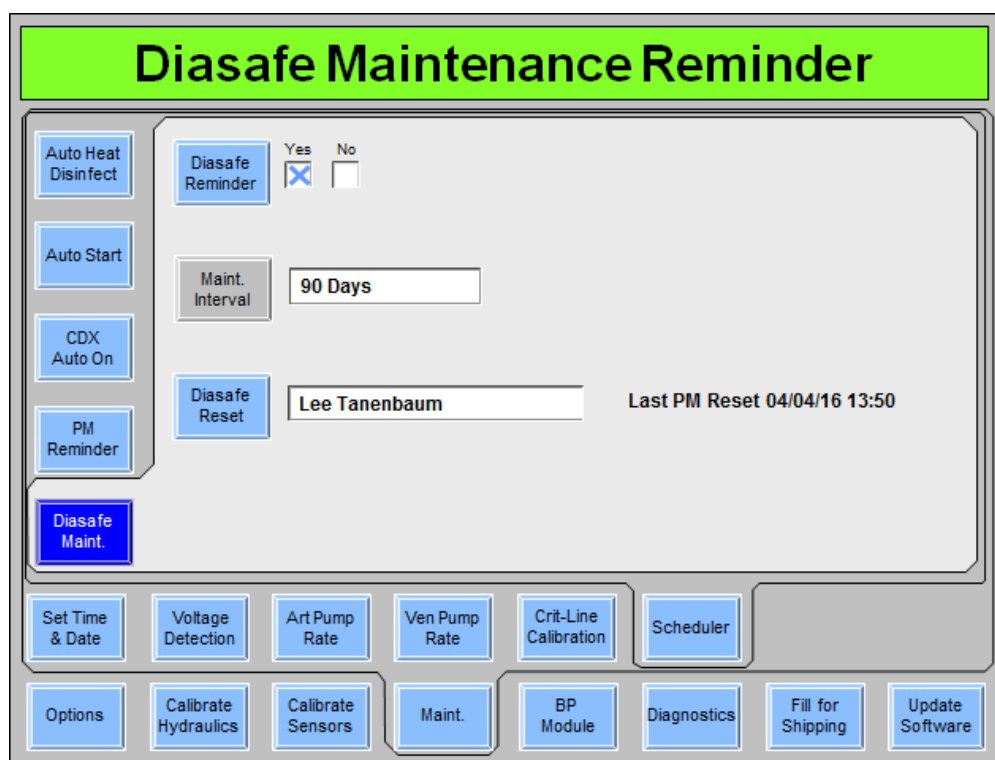
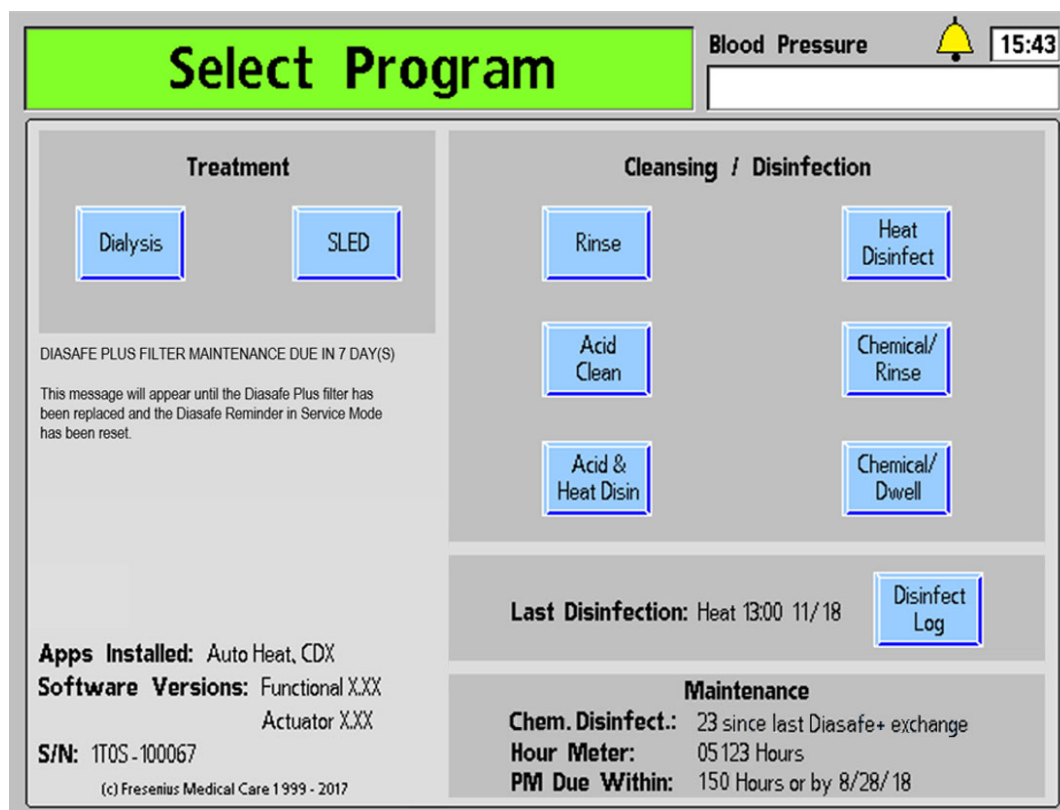

Figure 131 – Scheduler Diasafe Maint. Screen (showing functional software version 2.81 or later)
Figure 132 – Diasafe Reminder message displayed on the Select Program Screen (showing functional software version 2.81 or later)
The Diasafe Reminder option is part of 2008T BlueStar Premium * and it allows the user to program the 2008T hemodialysis machine to display a reminder on the “Select Program” screen (see Figure 132) to replace the DIASAFE *plus*_{US} filter starting seven days before the 90 day period has expired. The Service Mode “Diasafe Maintenance Reminder” screen also records the name of the technician that performed the last Diasafe reminder reset.
3. Select the **Diasafe Reset** button and, using the keyboard, enter the technician's name setting the PM reminder then press the **CONFIRM** key (for software version 2.81 or later, the name will populate the box automatically). This will reset the countdown clock from the last DIASAFE *plus*_{US} filter replacement date and save the technician's name and date the 90 day timer was reset (see Figure 131). This overwrites the name and date of the technician who performed the previous PM reset.
When the next DIASAFE *plus*_{US} filter replacement is due within 7 days, a message will appear on the "Select Program" screen to remind the operator that the DIASAFE *plus*_{US} filter maintenance due date is approaching, see Figure 132 below. The remaining hours will continue to count down to zero days and the reminder message will remain until the Diasafe Reminder is reset again.
In functional software version 2.81 or later, the user can program the "Select Program" screen so that it will display the number of chemical disinfections performed since the last Diasafe Plus filter replacement, so long as the Diasafe Reminder has been reset as described above. On the "Diasafe Maintenance Reminder" screen (see Figure 131) toggle the **Chemical Counter** button to Yes. The "Chem. Disinfect" counter will appear on the "Select Program" screen in the bottom right corner under the heading "Maintenance" (see Figure 132 below).